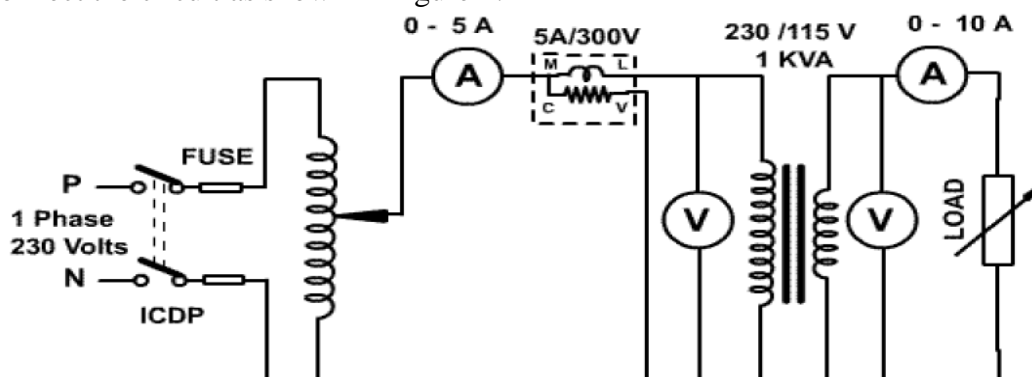

Figure 4: Circuit Diagram for Load test on Transformer
1. Connect the circuit as shown in Figure 4.